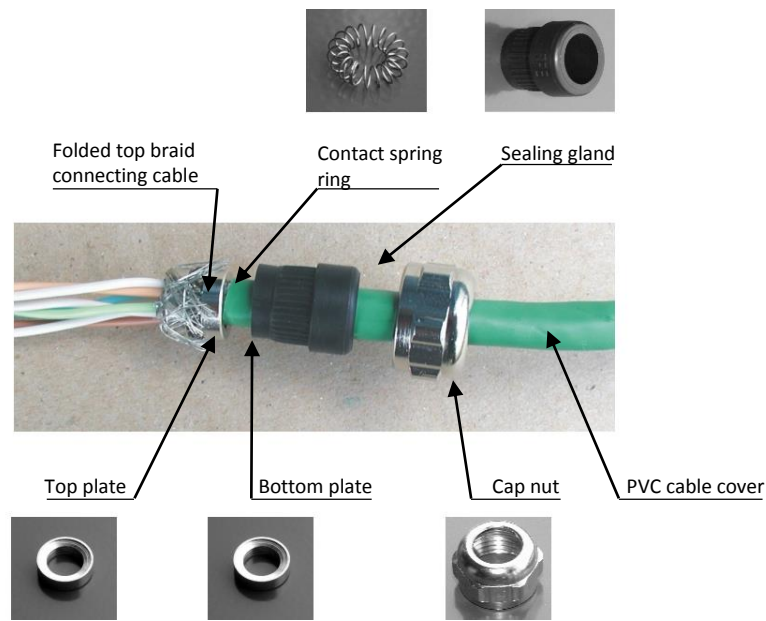

Figure 18 Grommet installation
- The twisted shield will be untwisted and released somewhat. Then it will be pulled over the washers on the cable and shortened at the bottom washer (figure 18). No wire of the shielding must go over the bottom washer, in order to tighten the sealing grommet by the pull-over nut well on the cable, and thus seal the grommet properly.